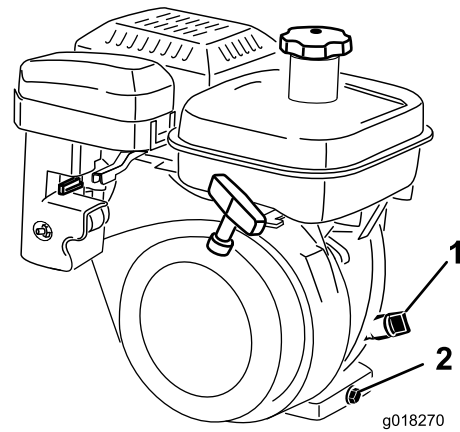

Figure 34
3. Remove the oil-level gauge by rotating it counterclockwise (Figure 34).
2. Position the machine so that the engine is level and clean around the oil-level gauge (Figure 34).
2. At the rear of the machine, place a drain pan under the drain plug (Figure 34). Loosen the drain plug.